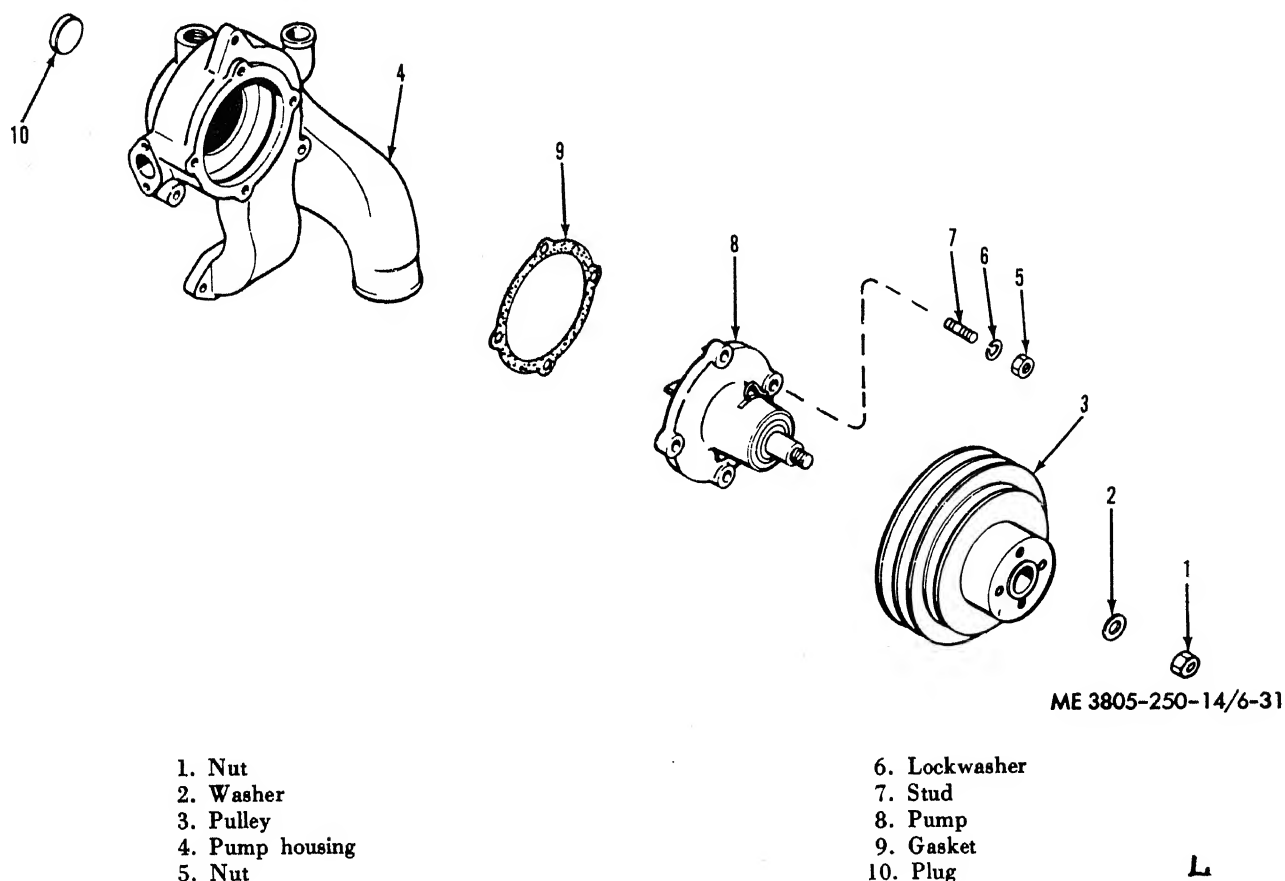

Figure 6-31. Water pump, exploded view.
*b. Disassembly.* Refer to figure 6-31.
(1) Remove the nut (1) and washer (2) securing the pulley (3) to the pump housing (4). Use a puller to remove the pulley from the pump shaft.
(2) Remove four nuts (5), lockwashers (6) and studs (7) securing the pump (8) to the housing. Discard the mounting gasket (9).
(3) Remove the plug (10) from the rear of the pump housing.